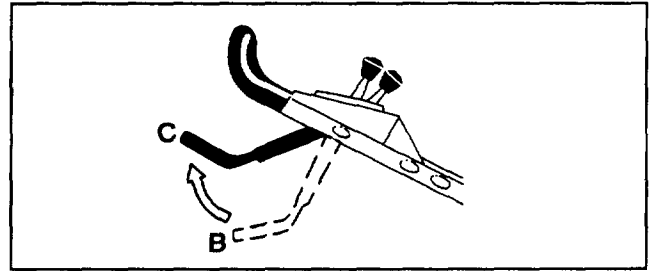

Figure 17
8. Bring the control bar up into the mid position (about 5 inches below the handle cross bar) (Fig. 17, position C).